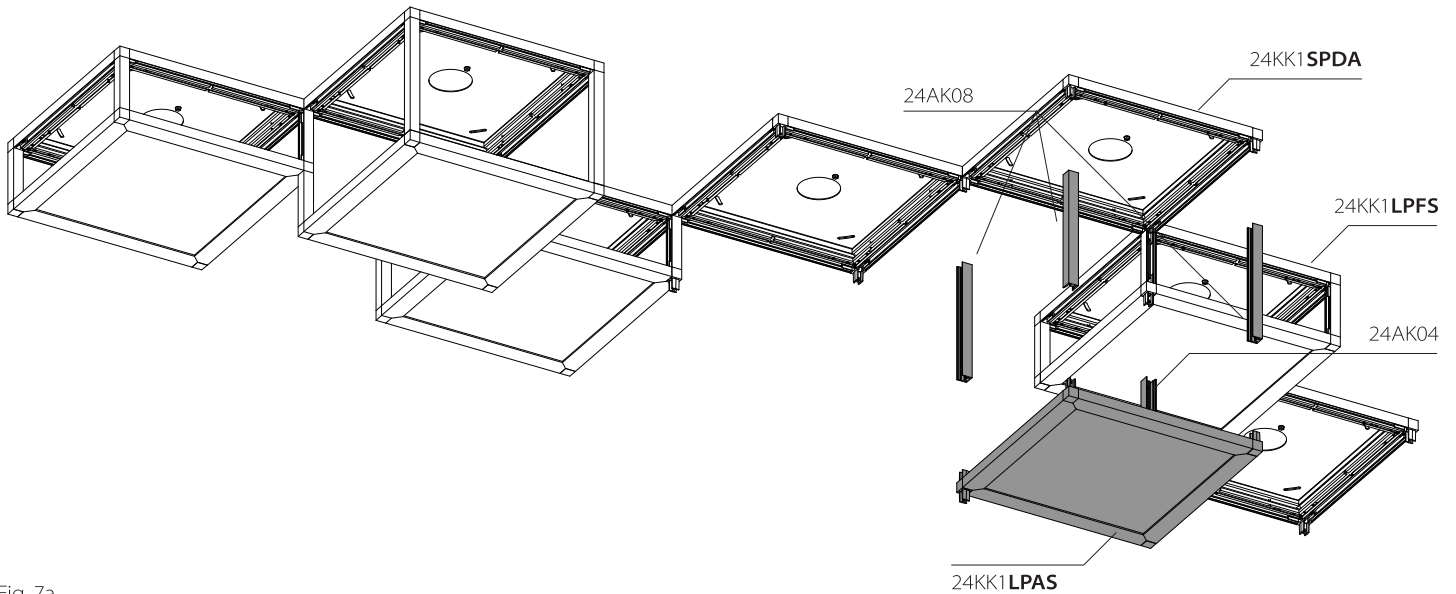

Fig. 7a
- 12a. Install (3x) 24AK08 and (1x) 24AK04 to 24KK1LPAS using countersunk screws in the orientation shown in Fig. 7a.